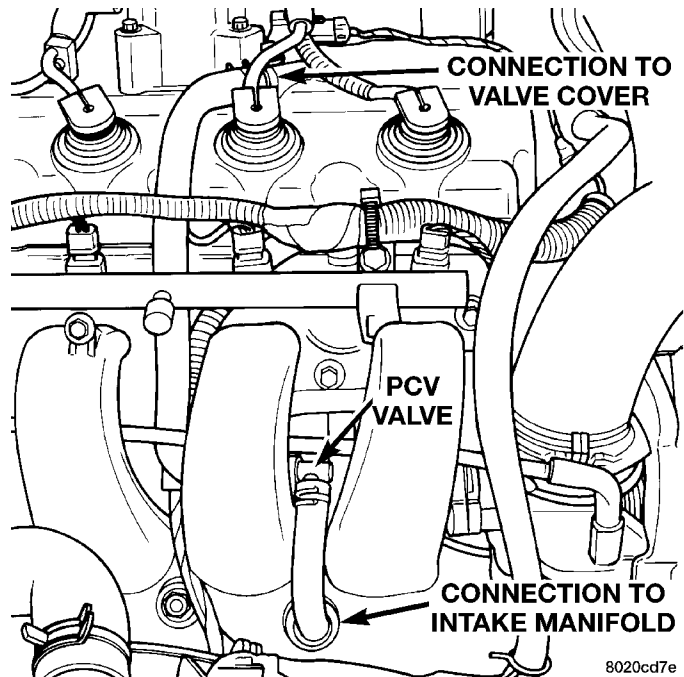

Fig. 35 PCV Valve
(6) Check hose connections between the PCV valve, vacuum port - intake manifold and the oil separator (Fig. 35).